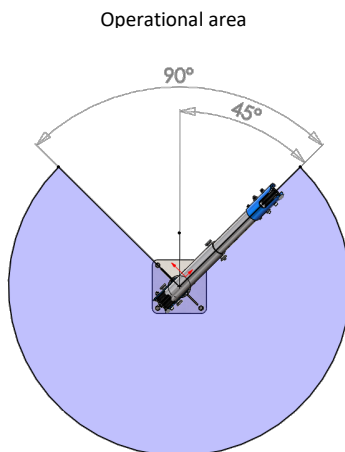

Fig 24.
- Only use the G.Davit at up to 45° from centre, see figure 24.